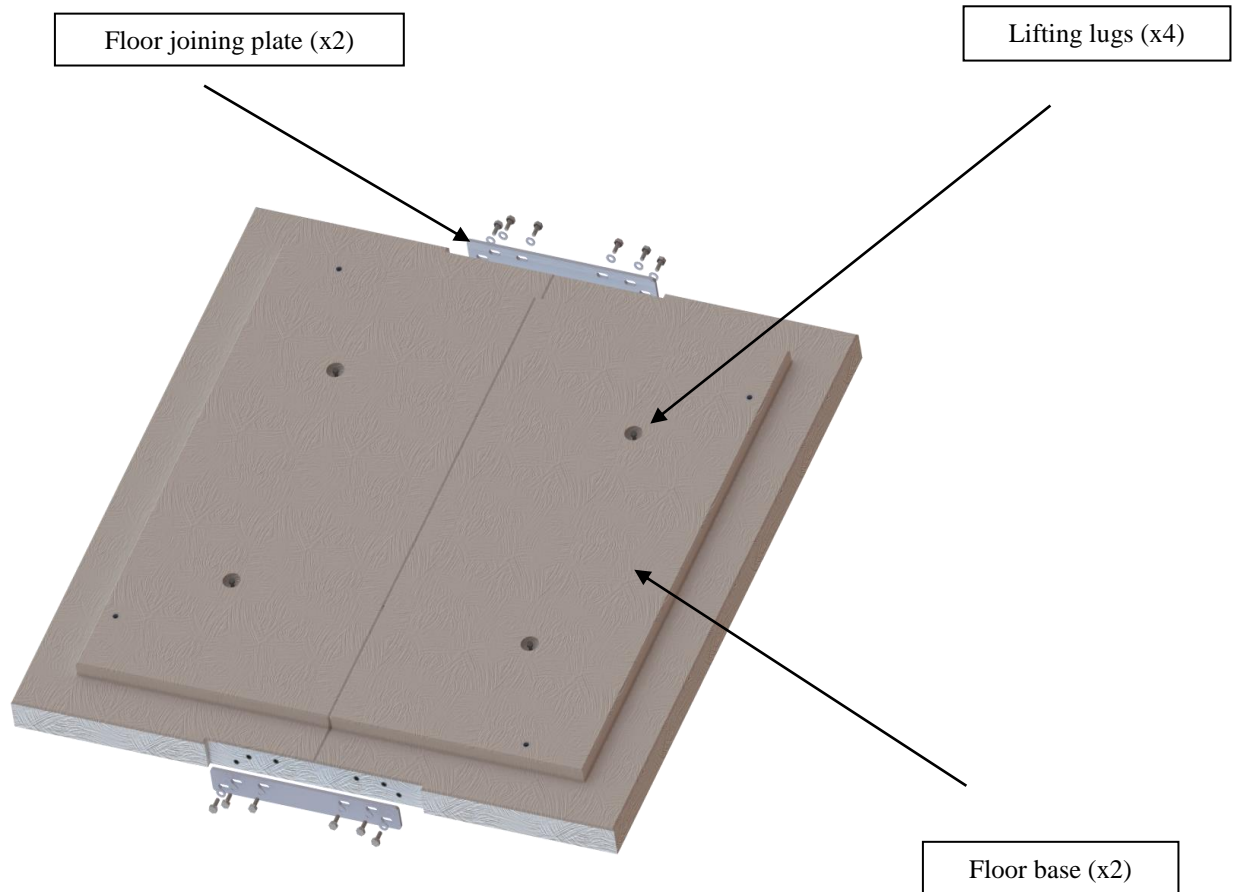

Figure 1
4. On level ground beside excavation, position side by side 2x Floor Bases and bolt them together using 2x Floor Joining Plates. Use 12x M12 Bolts and M12 Washer for fastening. See Figure 1.